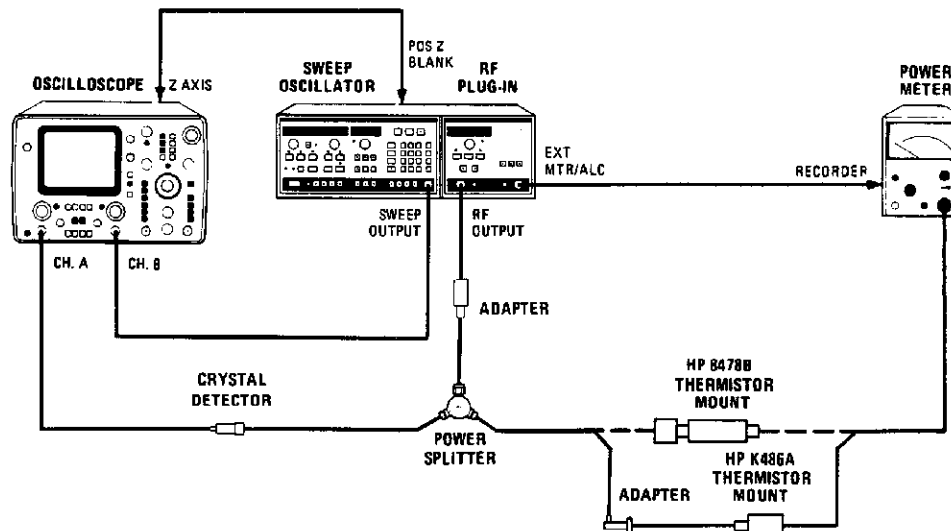

Figure 5-41. ALC Gain Adjustment Test Setup
1. Connect the equipment as shown in Figure 5-41 with the HP 8478B Thermistor Mount connected to the Power Splitter. Preset A4R11 (GAIN) fully counterclockwise. Refer to Figure 5-42 for the adjustment location. Allow the equipment to warm up for one hour.
14. Reconnect the equipment with the HP K486A Thermistor Mount and the Adapter connected to the Power Splitter as shown in Figure 5-41.